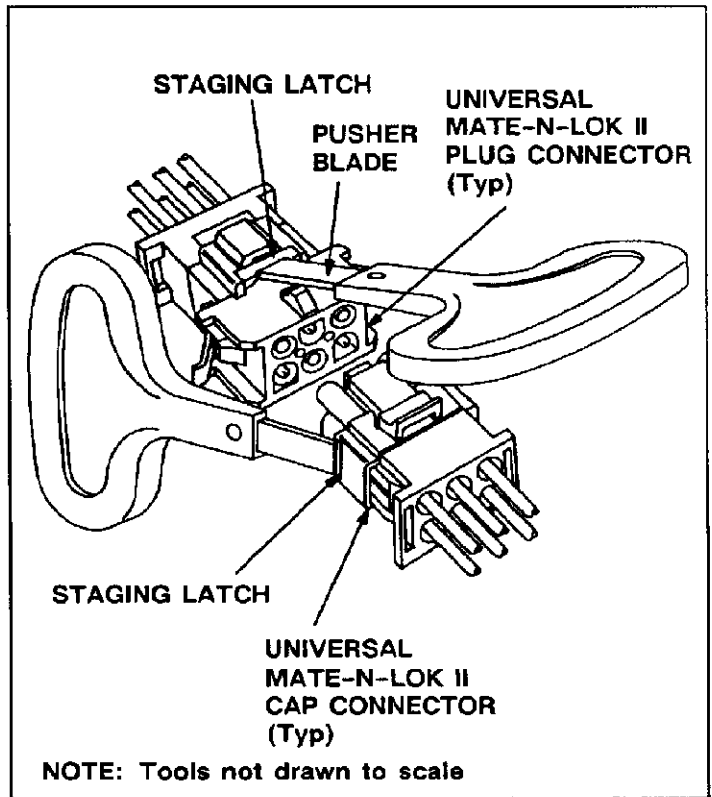

Fig. 2
3. DISENGAGEMENT PROCEDURE (Figure 2)